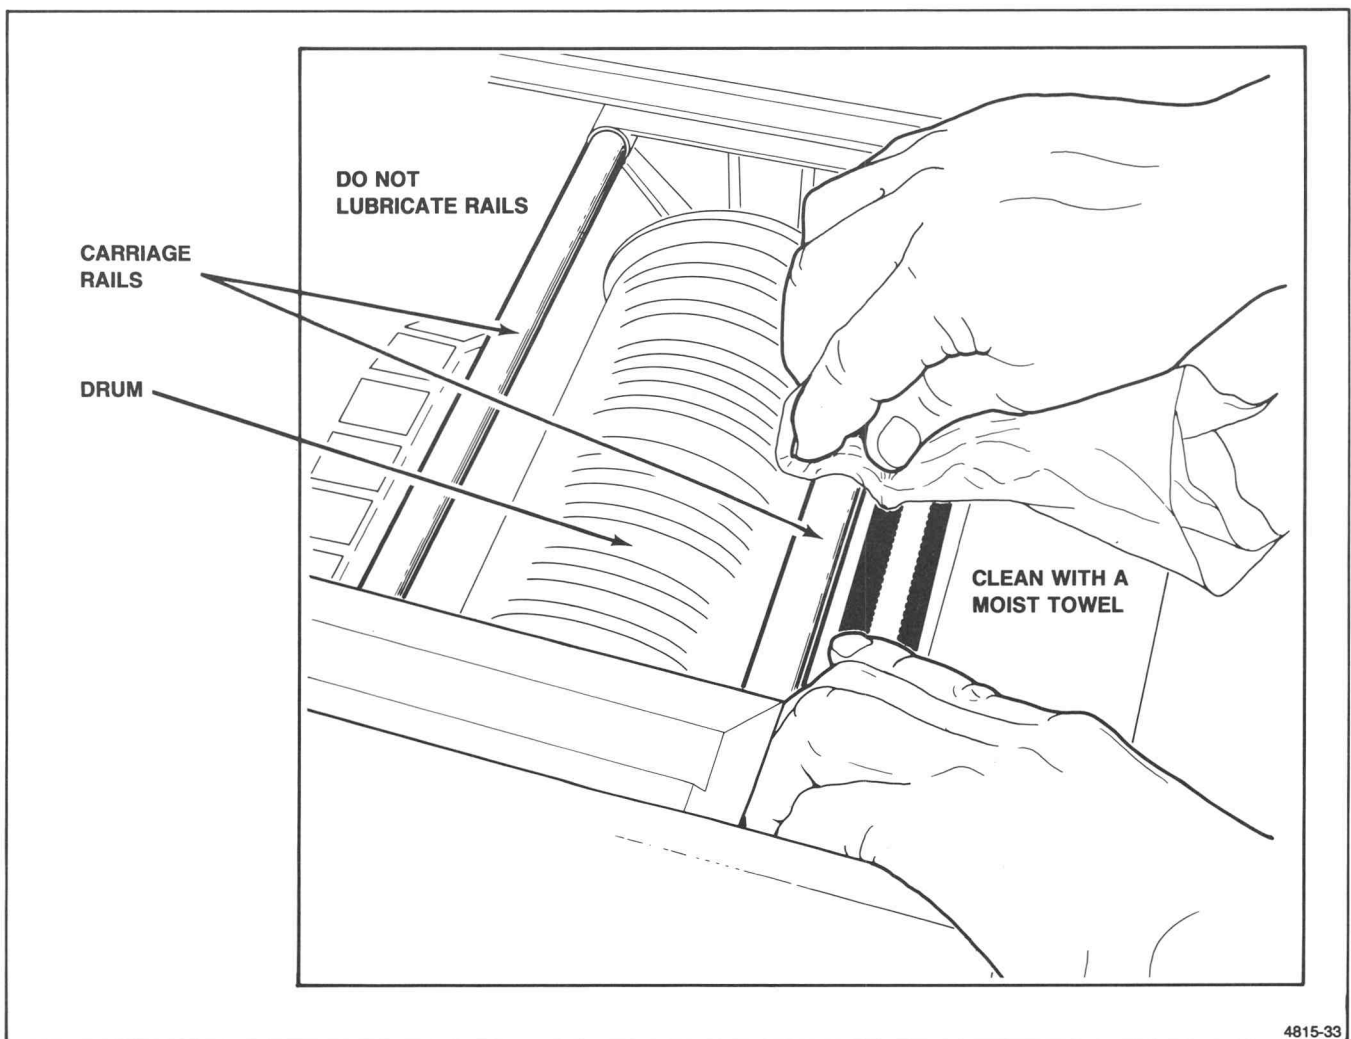

Figure 4-2. Cleaning the Carriage Rails and Drum.
Perform the following procedures for cleaning the head carriage rails and rotating drum (see Figure 4-2):
4. Clean the exposed carriage rails with a dampened lint-free cloth — see Figure 4-2.